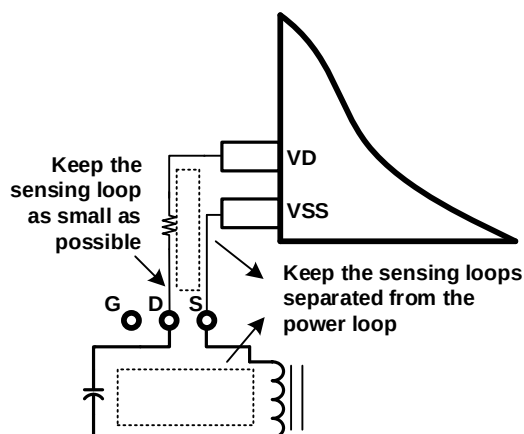
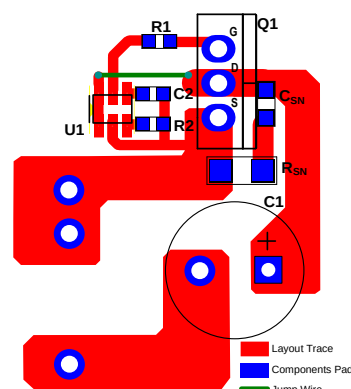

Figure 9: Voltage Sensing for VD/VSS
Figure 10: Layout Example with an SR MOSFET in a TO220 Package
Efficient PCB layout is critical for stable operation. For the best results, refer to Figure 9, Figure 10, and Figure 11, and follow the guidelines below:
3. Keep the IC out of the power loop to prevent the sensing loop and power loop from interrupting each other (see Figure 9).
Figure 10 shows a layout example of a 1-layer PCB with a through-hole transformer and an SR MOSFET in a TO220 package. R_{SN} and C_{SN} are the RC snubber network for the SR MOSFET. The sensing loop (VD and VSS to the SR MOSFET) is minimized and kept separate from the power loop. The VDD decoupling capacitor (C2) is placed beside VDD.